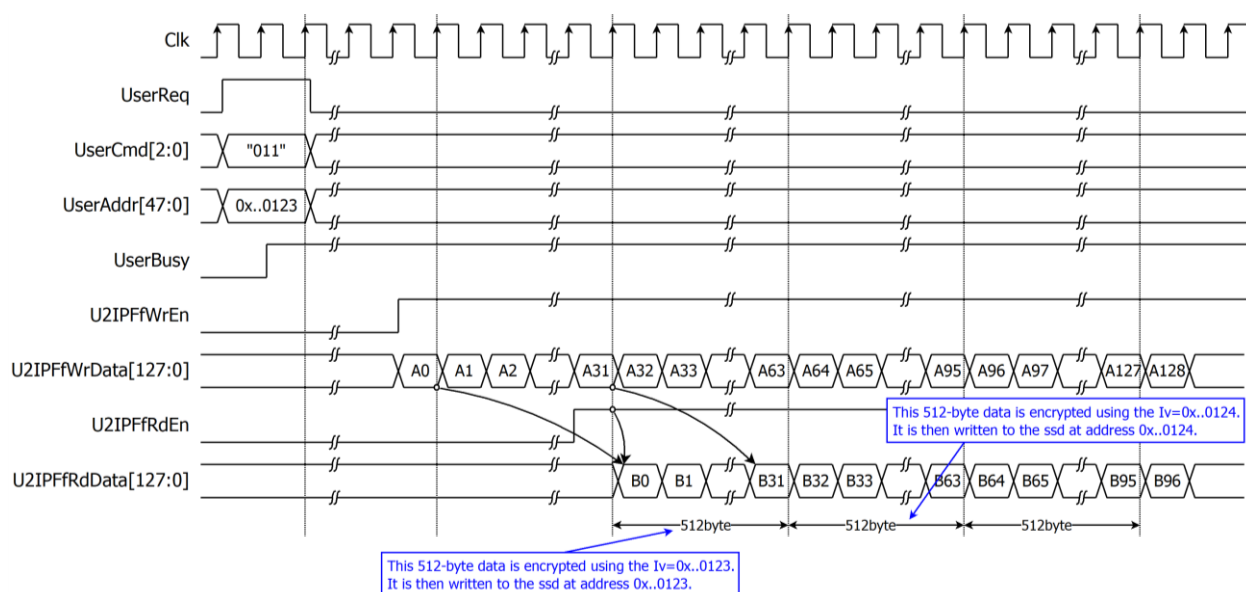

Figure 3-10 AES256XTSSTGENCTOP operation timing diagram for AES256XTSSTGIP
In the reference design example, Full Drive Encryption (FDE) is employed to encrypt all data on the SSD. The Auto IV Increment mode is employed for the purpose of ensuring continuous data encryption. As shown in Figure 3-10, the data is encrypted using UserAddr (or Logical Block Address - LBA) as the initialization vector (IV). For example, if the user intends to write data and the starting UserAddr/LBA is 0x0000_0000_0123, the first 512 bytes of data will be written to the address 0x0000_0000_0123. Subsequently, the next 512 bytes of data will be written to the address 0x0000_0000_0124, and this pattern will continue until the end of the data.